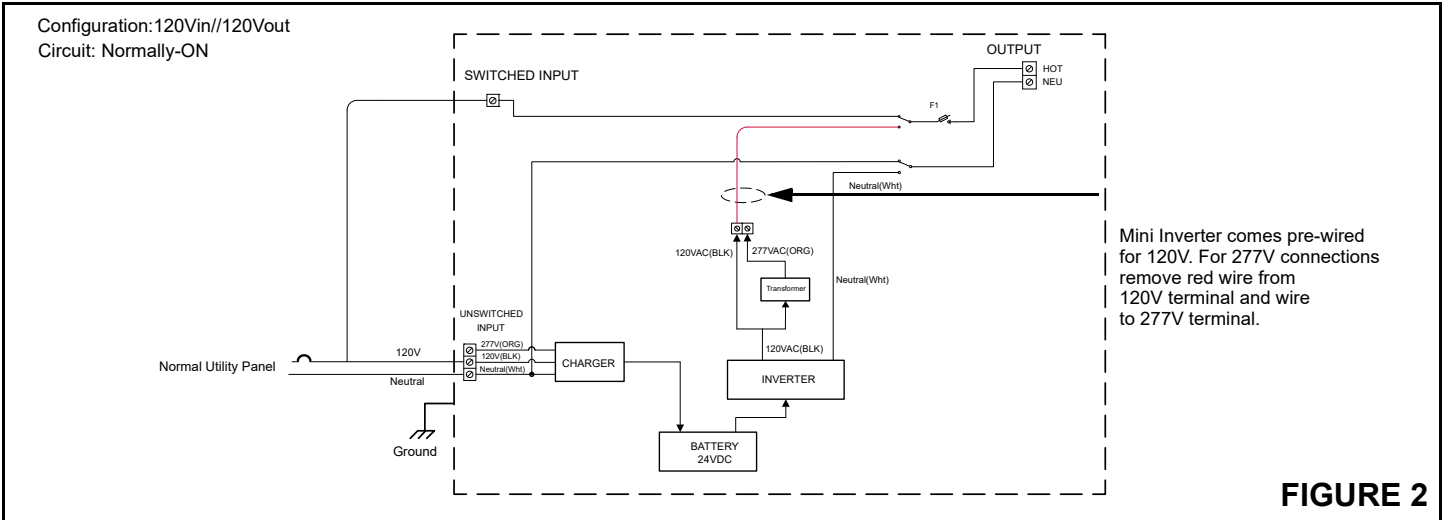

FIGURE 2
- Power supplied to the switched input must be fed from the same branch circuit as the unswitched input (see figure 2).**
- Unit is shipped from factory pre-set for 120V in // 120V out and configured for Normally-On load operation (see figure 2). This configuration can be changed to fulfill customer's application.
STEP 2: CONFIGURATION OF OUTPUT VOLTAGE (SEE FIGURE 2 AND 3)